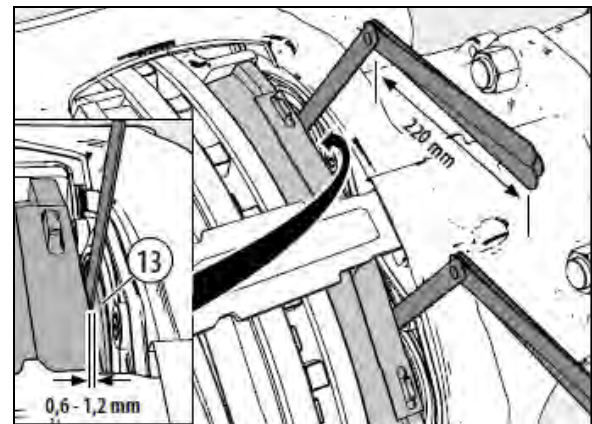

FIGURE 42: CHECK GAP BETWEEN TAPPETS AND INBOARD PAD
9. Set the starting gap by turning the adjuster (23) with the shear adapter (61) backwards and then forwards (note that when turning backwards a noticeable clicking can be heard and felt), until a value of 0.051 in (1.3 mm) air gap has been achieved (measure between the brake pad and tappets (13).
11. Check the gap between each of the tappets (13) and inboard pad backplate (12). This must be measured over the whole tappet surface of both tappets using two feeler gages simultaneously (feeler gages must be at least 8 ½ in / 220 mm long) (see Figure 42).